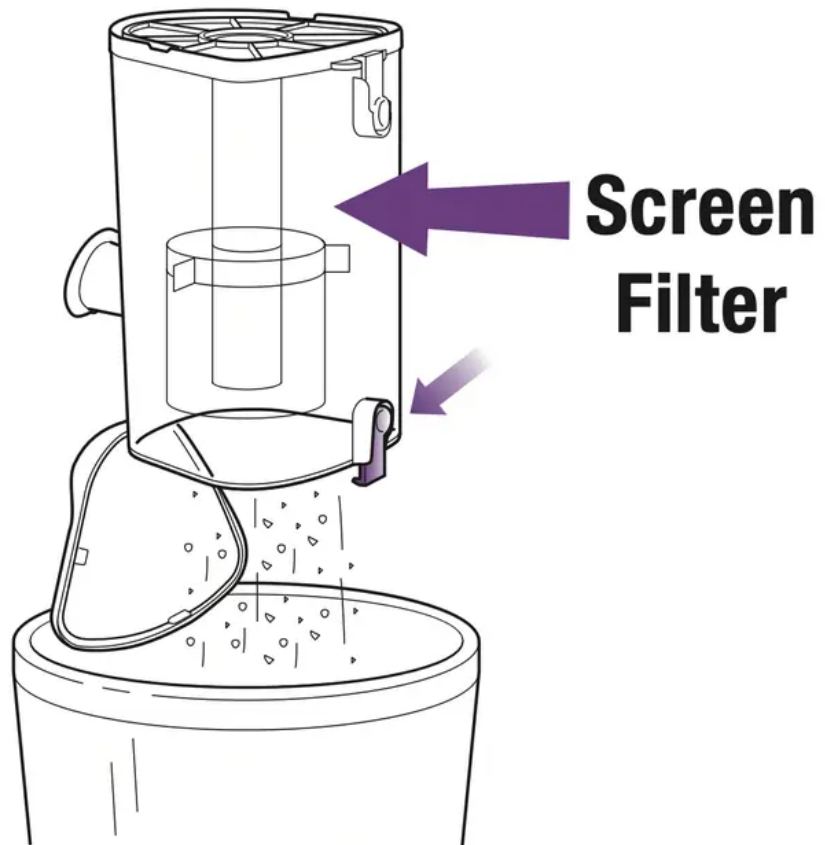

Fig. 21
3. If needed, turn the dust cup upside down over the trash receptacle and press the top door release button. (Fig. 21) Tap gently to remove contents.